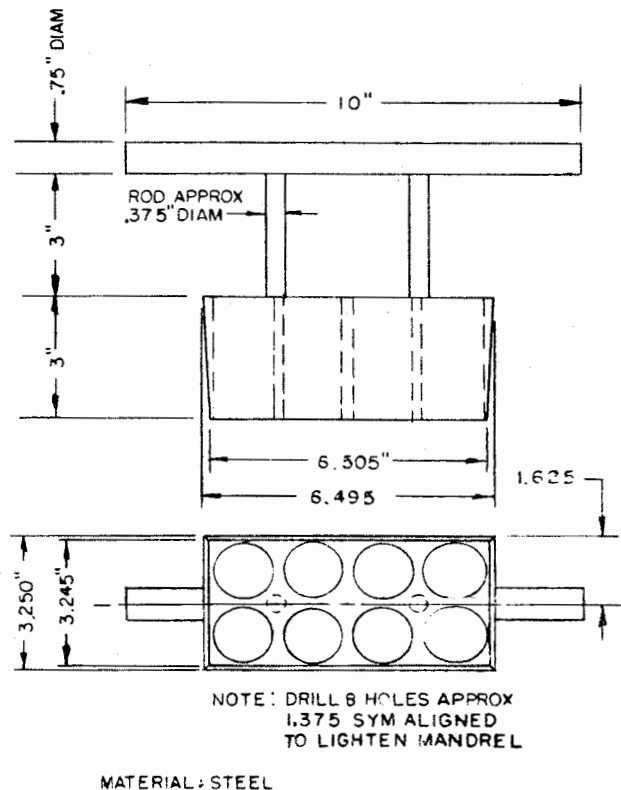

Figure 11-26. Mandrel for RG-127/U or NT-14ACM Waveguide
(1) Use fine sandpaper and clean outer surface of guide to one inch back from the edge to be soldered.
(2) Clean inside surface of cast brass flange.
(3) Flux inside of flange and outside of guide with Handy Flux or equivalent (Stock No. G51-F-640).
(4) Install flange on waveguide by method shown in Figure 11-27 or as shown in Figure 11-28. Leave 1/32 to 1/16 inches of waveguide extending out of flange. If method shown in Figure 11-27 is used, a mandrel as shown in Figure 11-26 must be inserted inside the waveguide. Either of these methods can be used but the method shown in Figure 11-26 and 11-27 is preferred as being both faster and doing the better job.